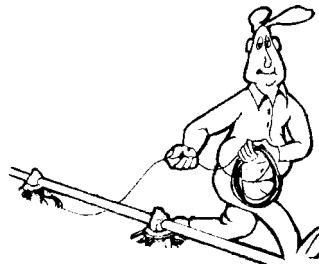

Figure 46. Unrolling the Cable
1. Unroll the bulk anti-roost cable. Note: If the cable is unrolled as shown in Figure 46, taking 5 loops of the coil with one hand, then changing hands to remove 5 loops as it is unrolled, it will lie flat during installation.